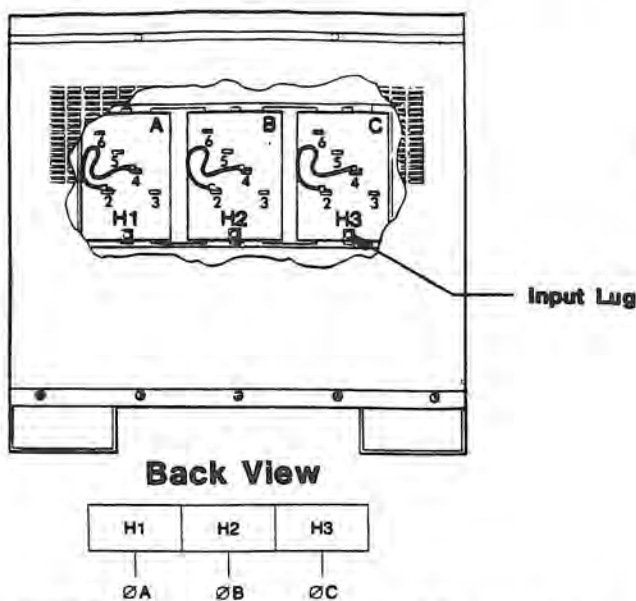

FIGURE 3-1. Input Terminal Connections
The ULTRA-ISOLATOR Noise Suppressor can boost the line voltage by either 5% or 10%, or reduce it by 5%. A jumper connected to taps on each of the three input coils provides this voltage adjustment (see Figure 3-1). The three jumpers are connected at the factory from Tap 2 to Tap 4 on each phase. Tap 4 is intended for use with input voltages that are approximately the nominal value as shown in the Listing of Models table in Section 2.1.
7. Connect the input cables to the input terminals as shown in Figure 3-1.